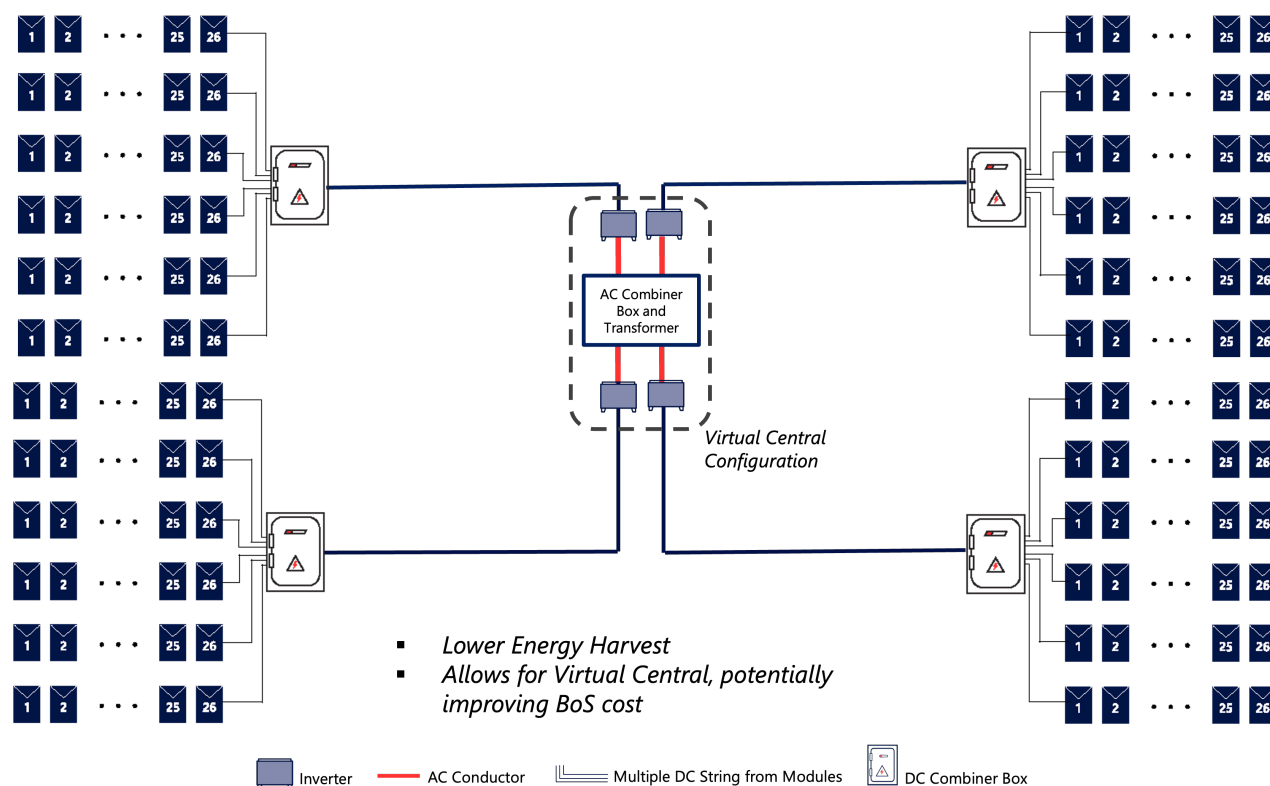

Figure 2 – Single DC Input String Inverter
- One with a single DC input allowing for a combined DC bus but with only one MPPT per inverter [see Figure 2].
The other solution in the market has inverters with single DC input [Figure 2]. In this case, the string inverter has a single DC input which allows the use of DC combiner boxes or wire harnesses with aluminum feeders to reduce DC cabling costs. However, since these inverters only have one MPPT, the energy harvest is lower when compared to the multi-MPPT inverter solution. So, while electrical balance of system costs can be reduced, energy production is also lowered.